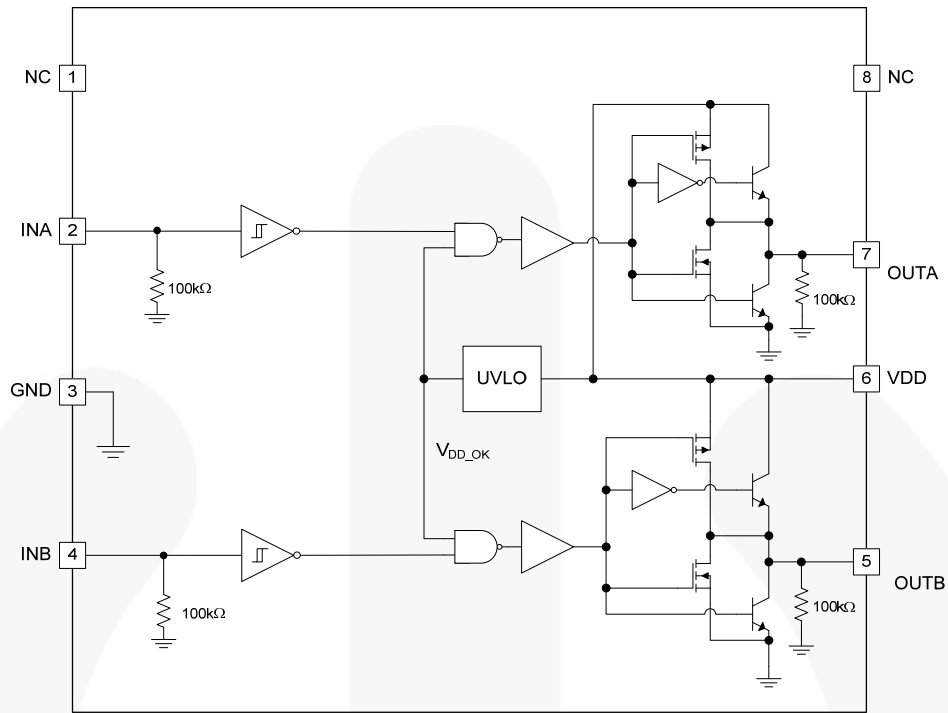
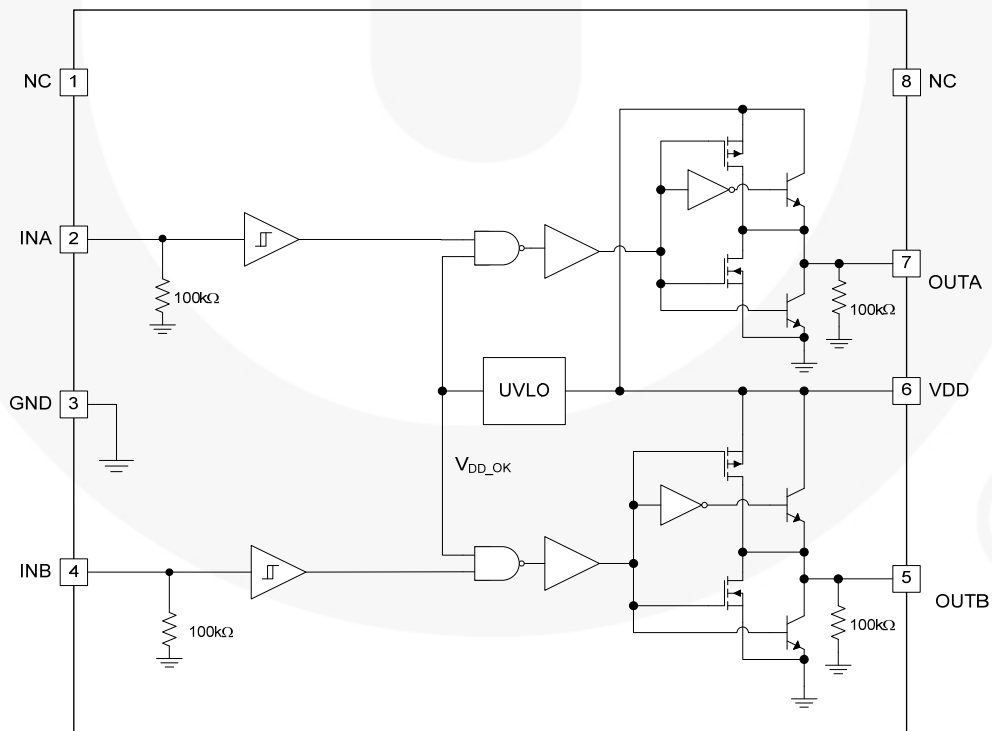

Figure 4. FAN3216 Block Diagram
Figure 5. FAN3217 Block Diagram
10. For any inverting inputs pulled LOW, non-inverting inputs pulled HIGH, or outputs driven HIGH; static  $I_{DD}$  increases by the current flowing through the corresponding pull-up/down resistor shown in Figure 4 and Figure 5.